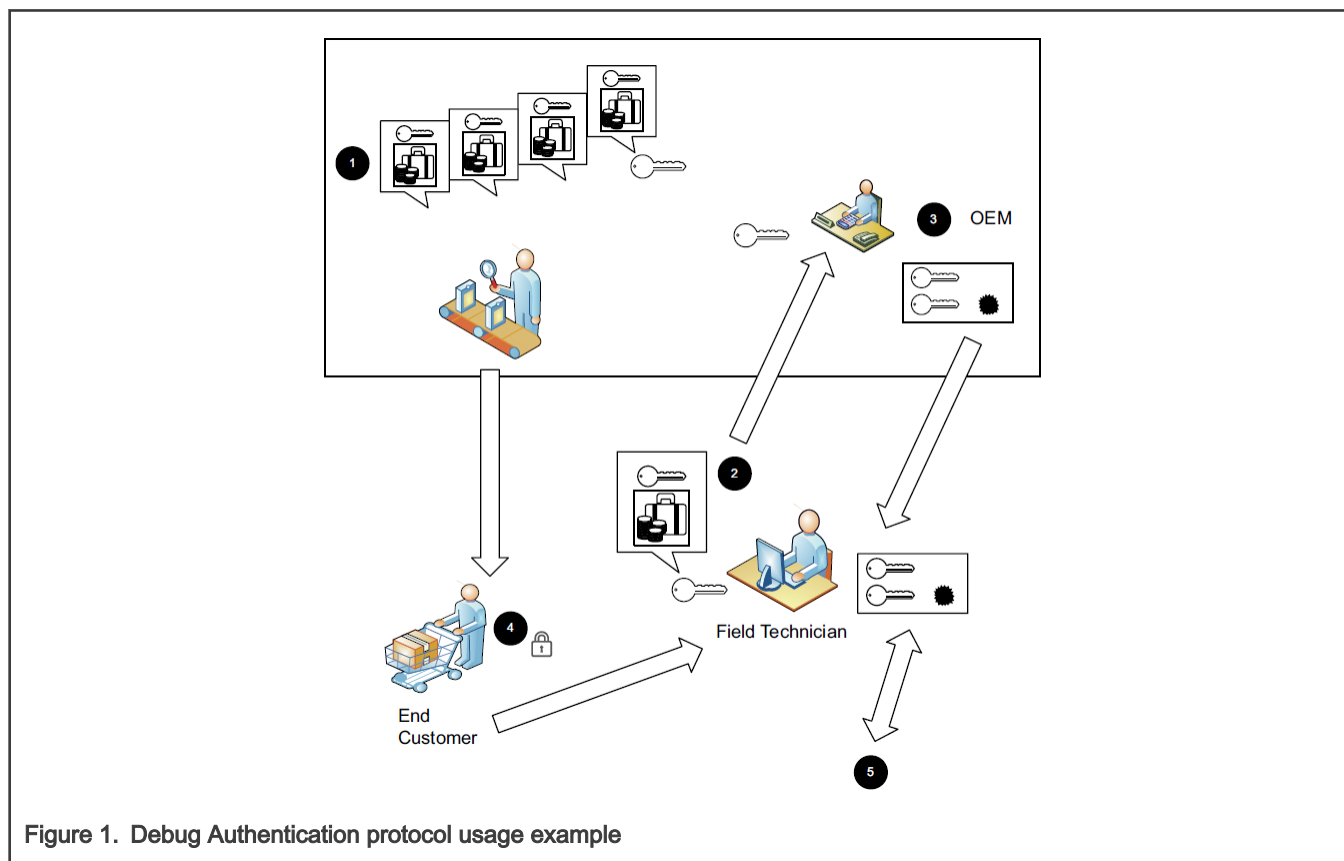

Figure 1. Debug Authentication protocol usage example
The LPC55Sxx family of devices includes a variety of possibilities to configure the debug port and a possibility to debug the firmware. The fundamental principles of debugging, which require access to the system state and system information, conflict with the principles of security, which require the restriction of access to assets. Thus, many products disable the debug access completely before deploying the product. This causes challenges for product design teams to do a proper Return Material Analysis (RMA). To address these challenges, the LPC55Sxx offers the Debug Authentication Protocol (DAP) as a mechanism to authenticate the debugger (an external entity) which has the credentials approved by the product manufacturer before granting the debug access to the device. Figure 1 shows an example usage of the debug authentication. The OEM is the owner of the root key pairs. The root key hash is programmed into the device during manufacturing. When the end customer faces an issue, the device is shipped to a repair center. The field technician can send a request to the OEM to provide the Debug Credential certificate (DC), which is signed by a private root key. The field technician uses this DC to provide debug access.